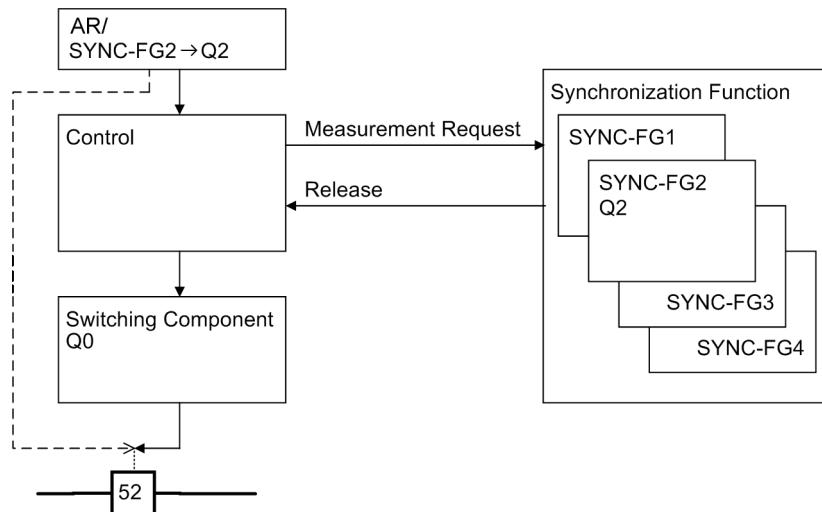

Figure 2-101 Connection of the automatic reclosing function to the synchrocheck
The automatic reclosing (AR) function can also interact with the synchronizing function. They are linked via the device control. The selection is made via parameter setting of the automatic reclosing function. The AR parameters (7138 **Internal SYNC**) determine which SYNC function group (SYNC FG) is used. The applicable switch is defined in the selected function group. The switchgear component indicated in the AR parameters (7137 **Cmd.via control**) and the selected SYNC function group should be identical. If their settings differ, the SYNC function group setting will overwrite that of the AR function. If no SYNC function group is entered in the AR parameter, the close command of the auto reclose function is carried out in unsynchronized form via the switchgear component indicated in the AR parameters. Equally, the close command „79 Close“ (message 2851) allows only unsynchronized switching. If e.g. circuit breaker Q0 is configured as component to be switched synchronized, a CLOSE command of the AR function will address this breaker and assign it a CLOSE command which will be processed by the control. As this breaker requires synchronization, the control launches the synchronizing function and awaits release. If the configured conditions are fulfilled, the release is granted and the control issues the CLOSE command (see Figure 2-101).